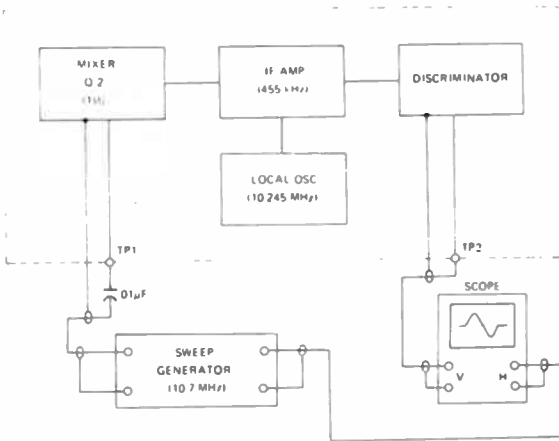

Figure 2. IF SECTION ALIGNMENT BLOCK DIAGRAM
Step 1 : Connect the instruments as shown in Figure 2.